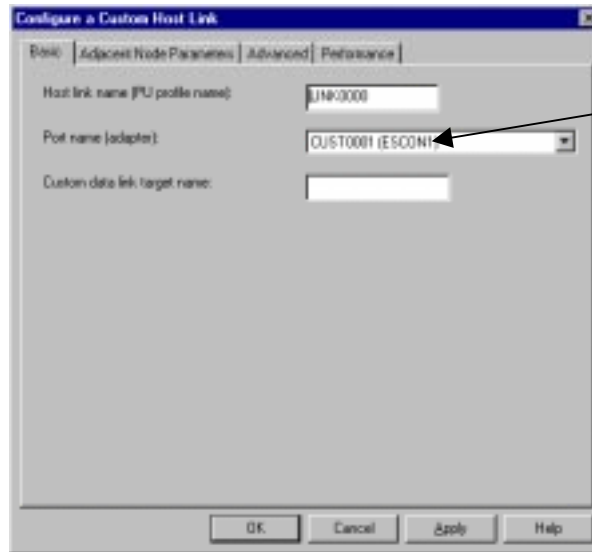

Figure 16-24. Link Configuration
4. Double click the link (LINK0000 above) to display the link’s properties (Figure 16-24).